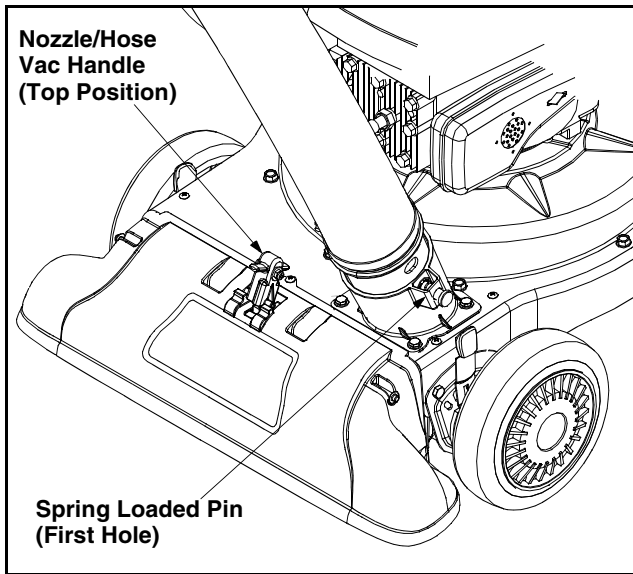

Figure 10
- Place nozzle/hose vac handle in the top position on the nozzle to vacuum through nozzle. See Figure 10.